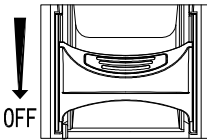
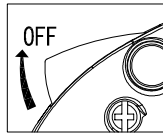

Figure 10-2-1
Figure 10-2-2
2. Press the clutch lever button, the reset button bounces (Figure 10-2-1), and fish. Take the water depth of 78 m as an example (Figure 10-2-2).